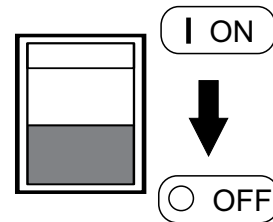

Figure 30. Idle Control Switch (OFF)
2. Place idle control switch (Figure 30) in the **OFF** position